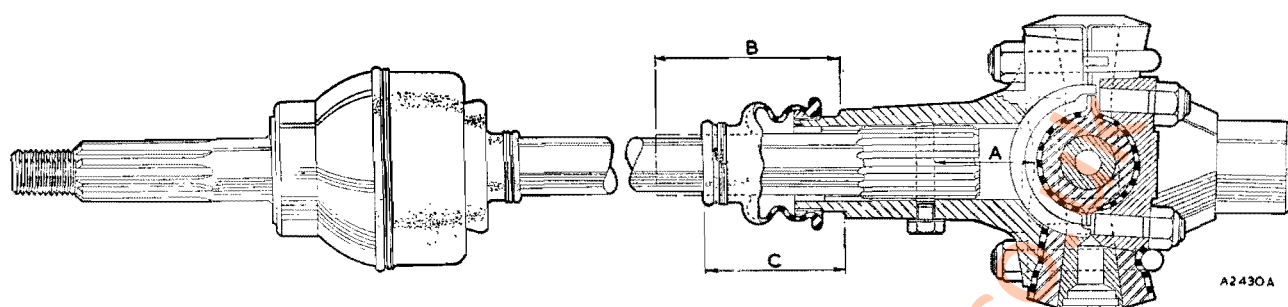

Fig. G.2
To repack a sliding joint, remove the wire securing the rubber boot to the joint flange, ease the boot from the flange, and withdraw the shaft. If the sealing ring fitted to the threaded end of the joint flange is disturbed it must be removed from the flange and the threads resealed with Araldite sealing compound. This sealing ring is not fitted to later models. Fill the cavity of the joint flange to point (A), Fig. G.2, with the special grease. Remove the old rubber boot from the drive shaft and clean off any particles of rubber adhering to the shaft. Slide the new rubber seal over the drive shaft and insert the
shaft into the joint flange to the position (B) shown in Fig. G.2. Secure the boot to the joint flange with two turns of 20 S.W.G. soft-iron wire twisted firmly together to ensure a good greasetight seal. Bend the ends of the wire away from the convolutions to ensure that they cannot damage the boot. Hold the drive shaft in a vice and push the flange fully onto the shaft, at the same time holding the outer lip of the boot open with the tang end of a file to allow the displaced air and surplus grease to escape.
Withdraw the shaft until the seal is positioned as shown at dimension (C), Fig. G.2, and secure the boot to the shaft with two turns of 20 S.W.G. soft-iron wire.